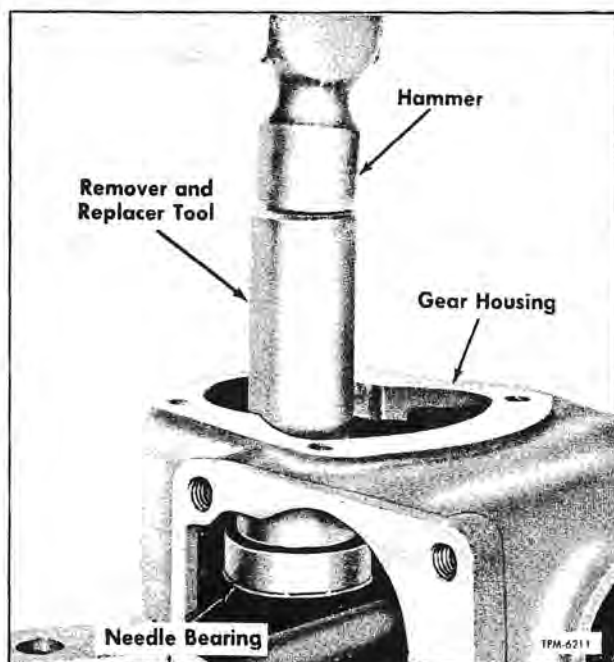

Figure 13—Removing or Installing Needle Bearing in Housing
2. Press or drive needle bearings from steering gear housing, using remover and replacer tool (J-5529) (fig. 13).